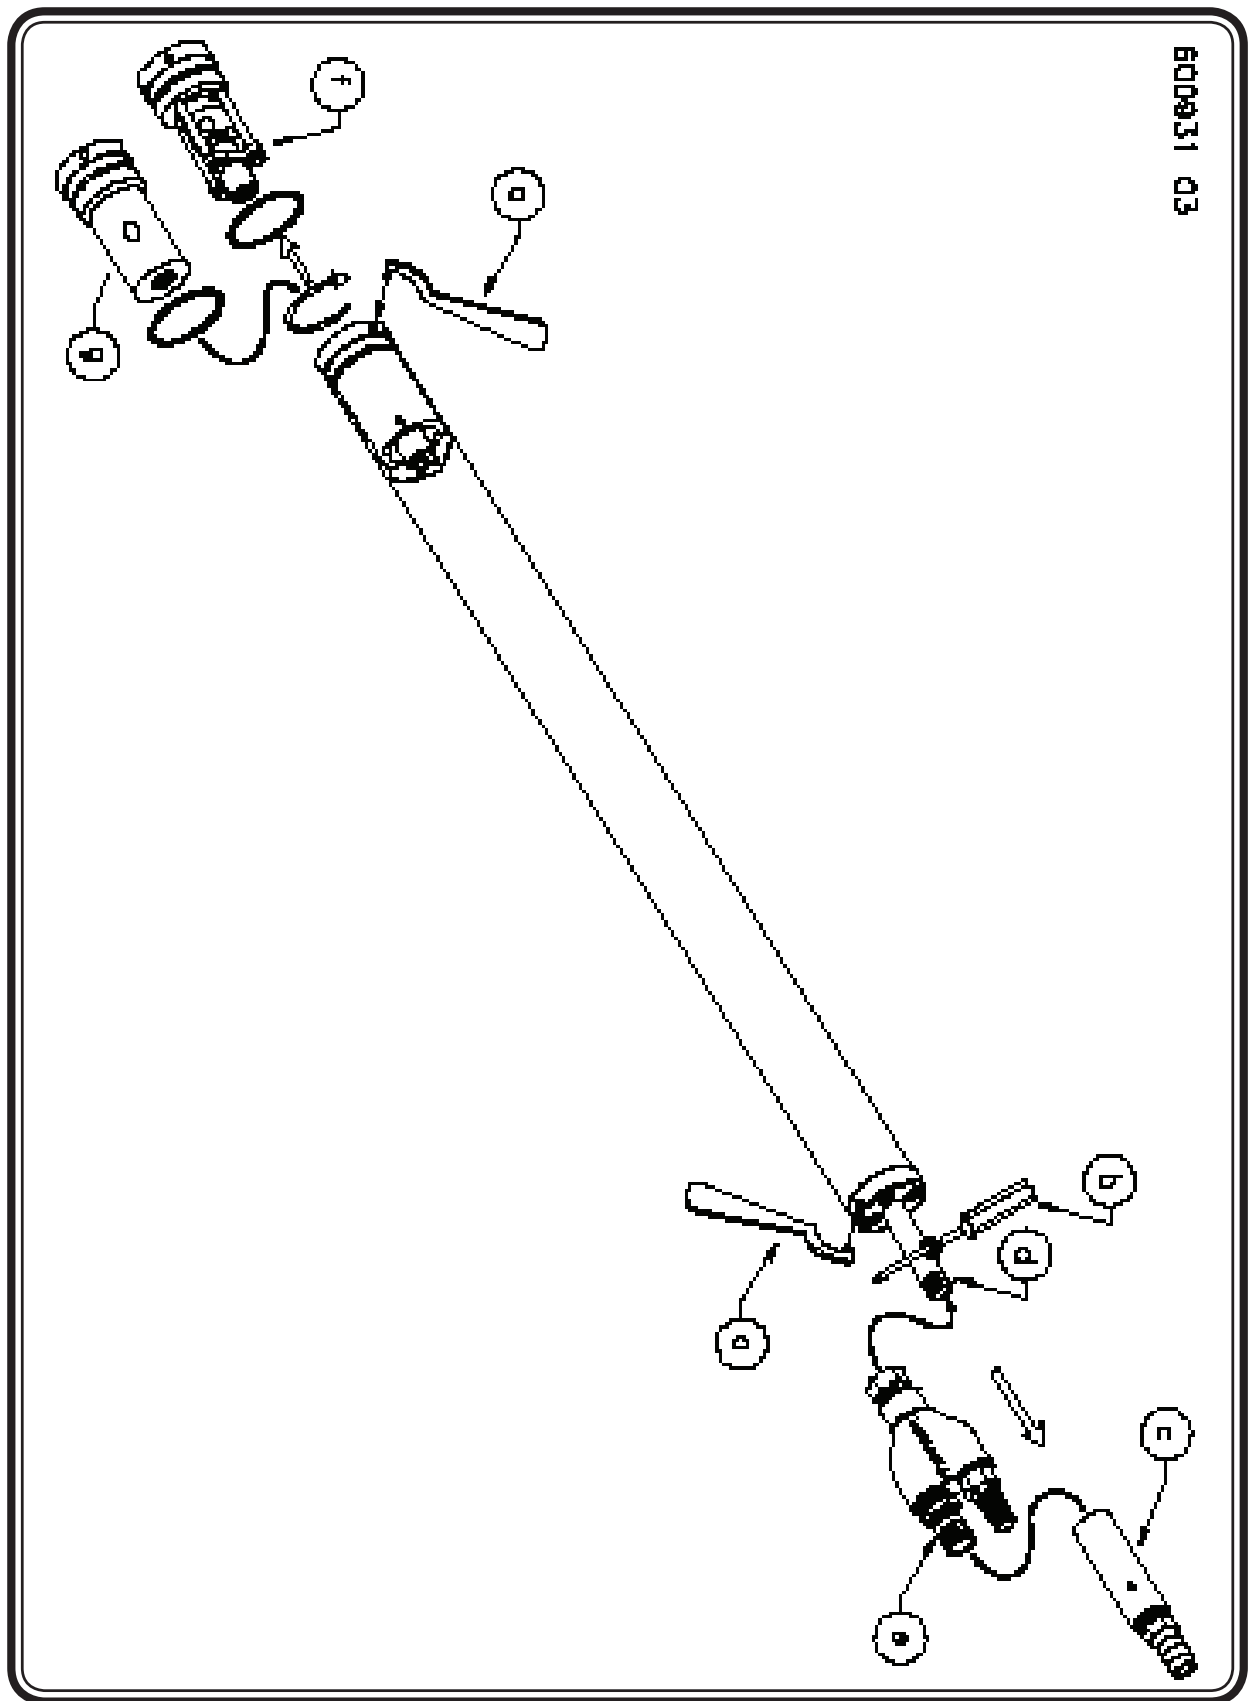

Figure 52 - Conversion from Long Bottom Loading to Long Top-Loading
1. Secure the pump with a spanner wrench “A” on the head or with a screwdriver “B” through the support ring. (See Figure 52)
2. Unthread discharge check valve “C” from the pump and clean the threads in the valve and on the pump “D”. A strap or pipe wrench can be used. (See Figure 52)
3. Apply Teflon tape to the threads on the wye assembly nipple “E” and thread on the discharge check valve. Check that the pinned end of the valve is up. Hold the bushing at the top of the "WYE" with a wrench and then tighten the valve with a pipe wrench or a strap wrench. (See Figure 52)
4. Apply Teflon tape to the pump threads “D”. Tighten the wye assembly on the pump by using a wrench on the bushing at the bottom of the "WYE". Align the "WYE" so that the air ports on the pump head are even with the indentations on each side of the "WYE". (See Figure 52)
5. Remove the bottom check valve “F” with a spanner wrench. If the casing comes off with the valve, the valve may be knocked out with a wooden “2x2” (50mm X 50mm) or similar blunt tool, inserted into the open end of the casing. (See Figure 52)
6. Remove the o-ring from the valve and install it on the bottom plug “G”. (See Figure 52)
7. Lubricate the first 3/4 in. (19 mm) of the inside with food-grade Teflon-filled grease. (See Figure 52)
8. Spin the bottom plug on the pump with a spanner wrench, or, with a screwdriver through the hole. Do not use sealant or tape. (See Figure 52)